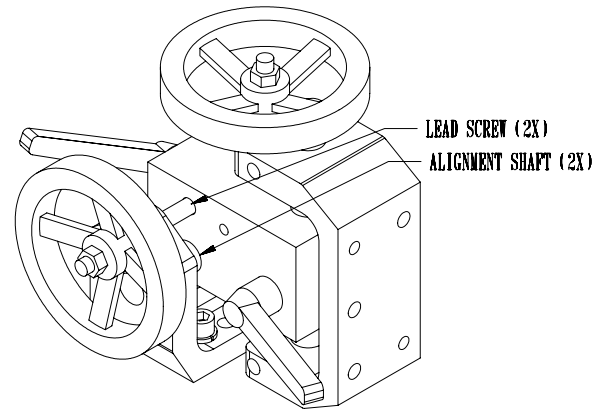

FIG. 7
4. Wipe and relube with never-seez, the vertical and horizontal alignment shafts and lead screws. This Should be done every six months. See FIG. 7. Move Adjust through full range of motion. If binding see page 19 for adjustments or page 20 for replacements of the shafts or other parts.